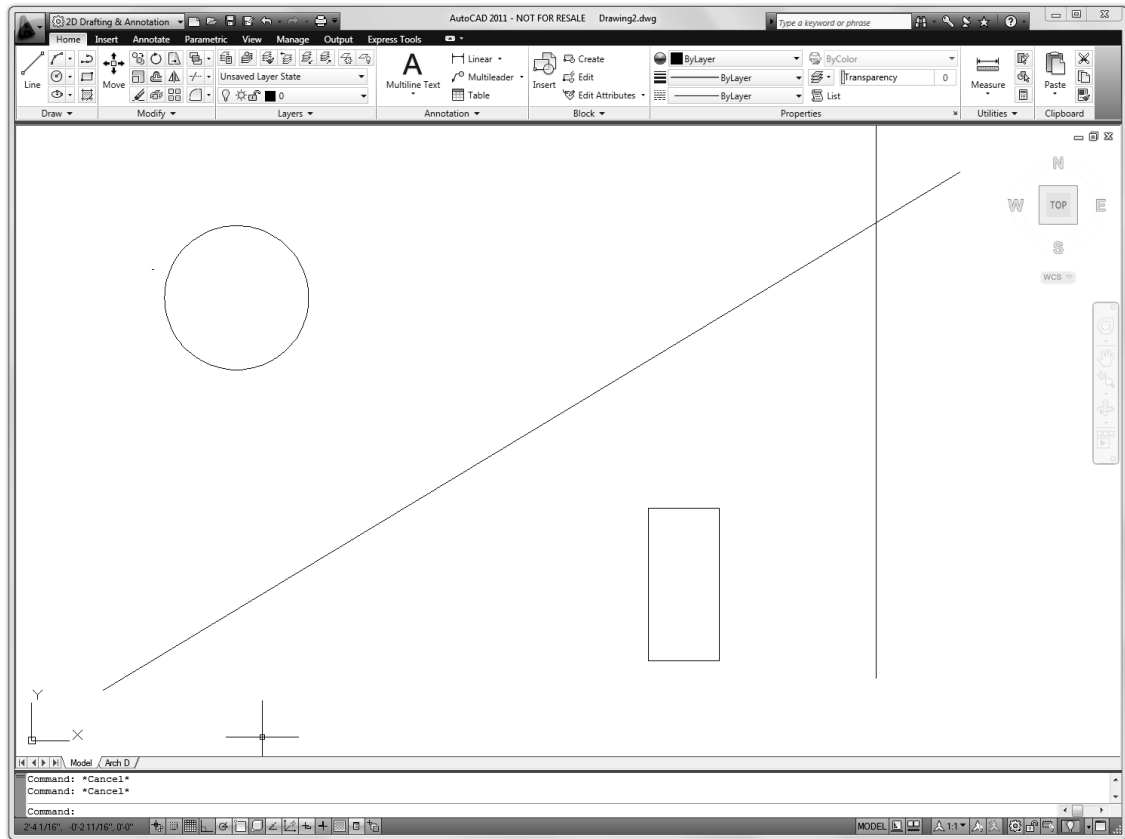

FIGURE 2-1.14 Drawing with Circle added
33. Type **6-5/8** and then press **Enter** (this equals $6\frac{5}{8}$ "). (See Figure 2-1.14 on the next page.)